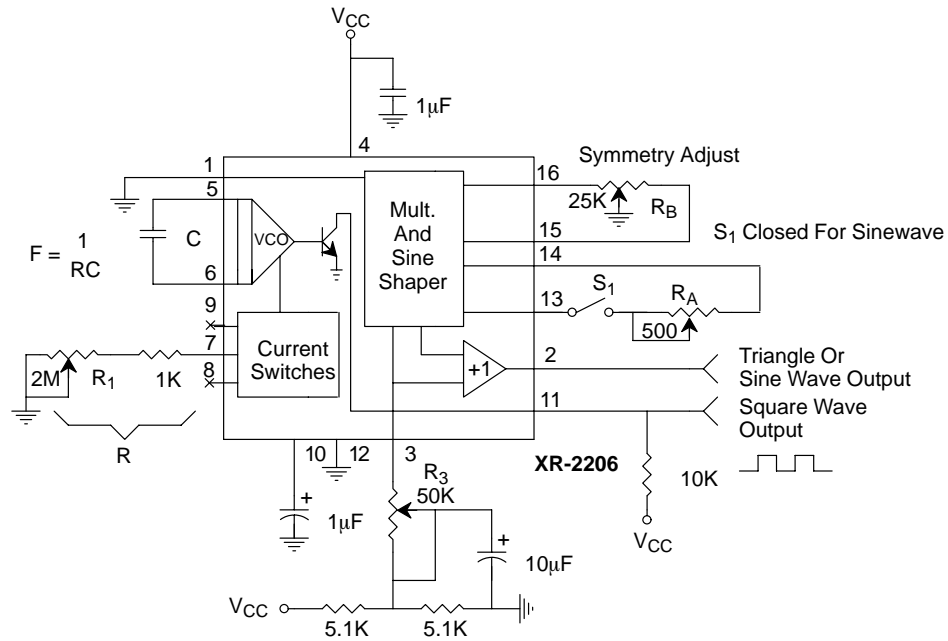
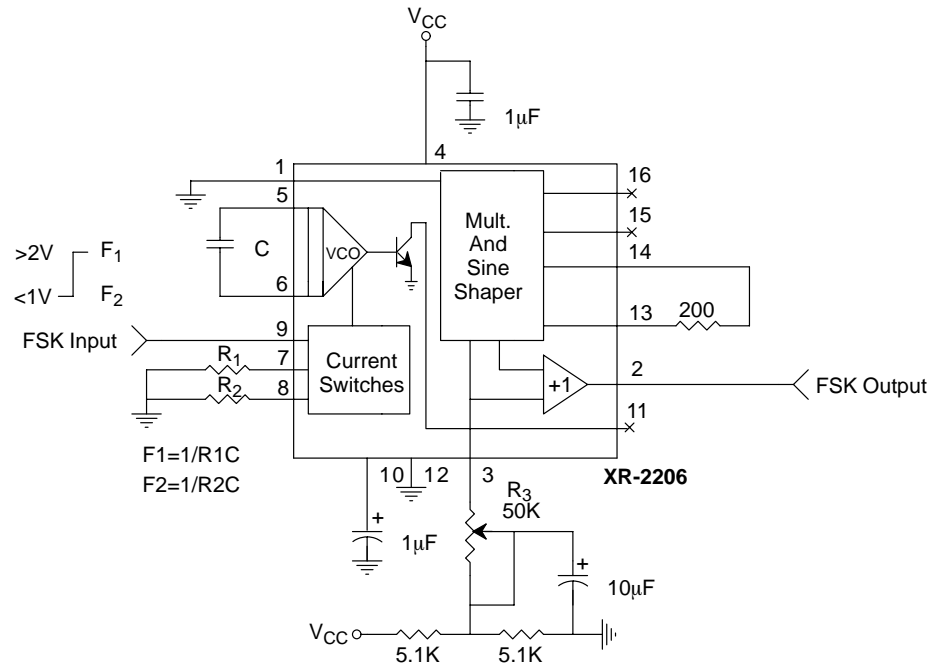

Figure 12. Circuit for Sine Wave Generation with Minimum Harmonic Distortion.
Figure 13. Sinusoidal FSK Generator
The XR-2206 can be operated with two separate timing resistors,  $R_1$  and  $R_2$ , connected to the timing Pin 7 and 8, respectively, as shown in *Figure 13*. Depending on the polarity of the logic signal at Pin 9, either one or the other of these timing resistors is activated. If Pin 9 is open-circuited or connected to a bias voltage  $\geq 2V$ , only  $R_1$  is activated. Similarly, if the voltage level at Pin 9 is  $\leq 1V$ , only  $R_2$  is activated. Thus, the output frequency can be keyed between two levels.  $f_1$  and  $f_2$ , as:
The dc level at the output (Pin 2) is approximately the same as the dc bias at Pin 3. In *Figure 11*, *Figure 12* and *Figure 13*, Pin 3 is biased midway between  $V^+$  and ground, to give an output dc level of  $\approx V^+/2$ .
The harmonic content of sinusoidal output can be reduced to -0.5% by additional adjustments as shown in *Figure 12*. The potentiometer,  $R_A$ , adjusts the sine-shaping resistor, and  $R_B$  provides the fine adjustment for the waveform symmetry. The adjustment procedure is as follows:
The circuits of *Figure 11* and *Figure 12* can be converted to triangle wave generation, by simply open-circuiting Pin 13 and 14 (i.e.,  $S_1$  open). Amplitude of the triangle is approximately twice the sine wave output.
*Figure 13* shows the circuit connection for sinusoidal FSK signal operation. Mark and space frequencies can be independently adjusted by the choice of timing resistors,  $R_1$  and  $R_2$ ; the output is phase-continuous during transitions. The keying signal is applied to Pin 9. The circuit can be converted to split-supply operation by simply replacing ground with  $V^-$ .